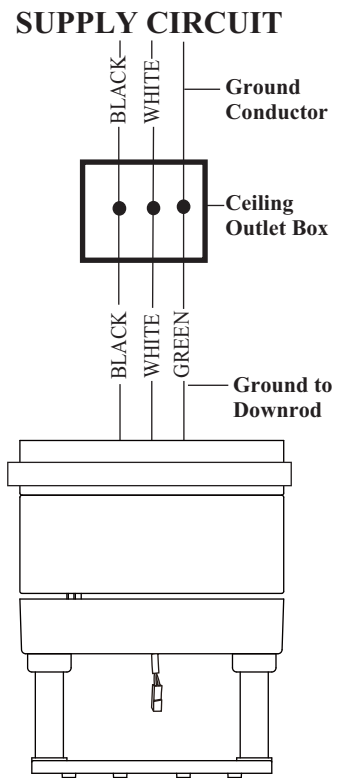

Figure 8
1. Connect the fan supply (black) wire to the black household supply wire (Conductor cable between ceiling and wall outlet box). (Fig. 8)